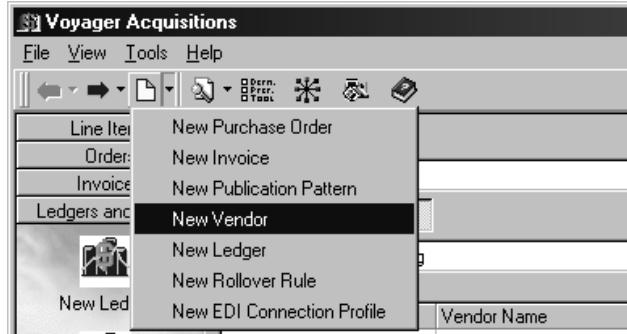

Figure 4-3. New Item menu on the toolbar
- Click the down arrow beside the **New Item** button on the toolbar and then select **New Vendor** from the list (see Figure 4-3).